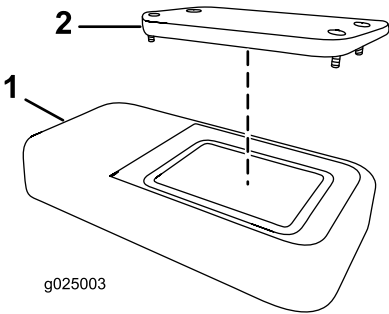

Figure 63
2. Remove the cover (Figure 63).